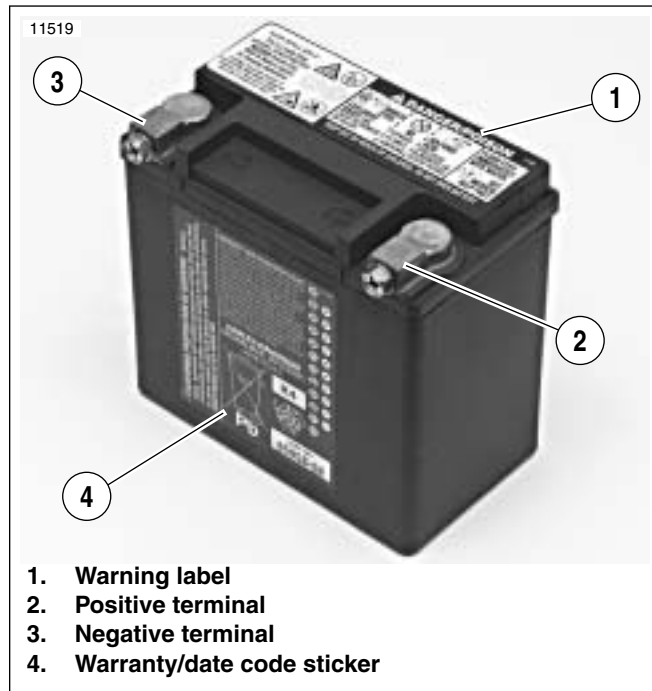

Figure 2. Battery
All Harley-Davidson dealers must maintain a fresh stock of batteries by rotating and selling them on a “first in, first out” basis. All batteries must be sold within 12 months of the date of manufacture code which appears on the battery warranty/date code sticker (4) on the terminal side of the battery. See Figure 2.